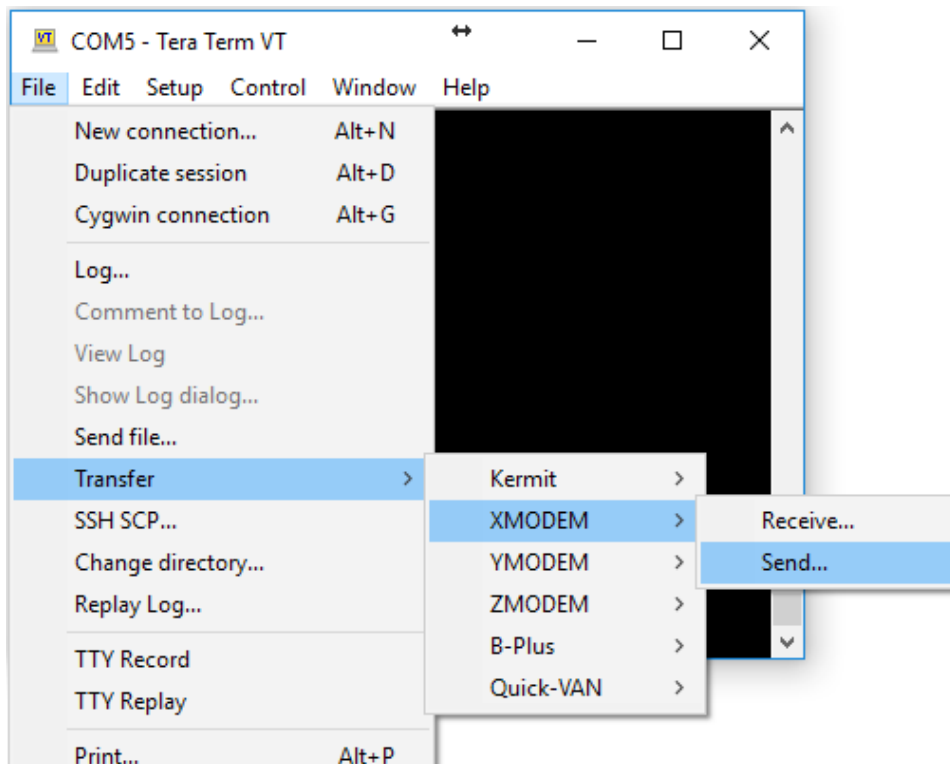

Figure 7.7: Terminal - XMODEM send
10. Send firmware file to HOQM20 (figure 7.7)